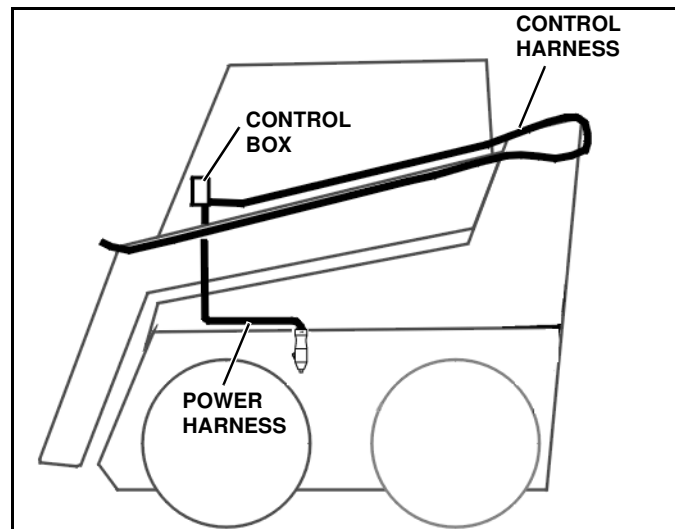

Figure 2-15
2. Connect the power adapter to the in-cab power receptacle. The power cable may need to be wrapped around the back of the seat. (See Figure 2-15)